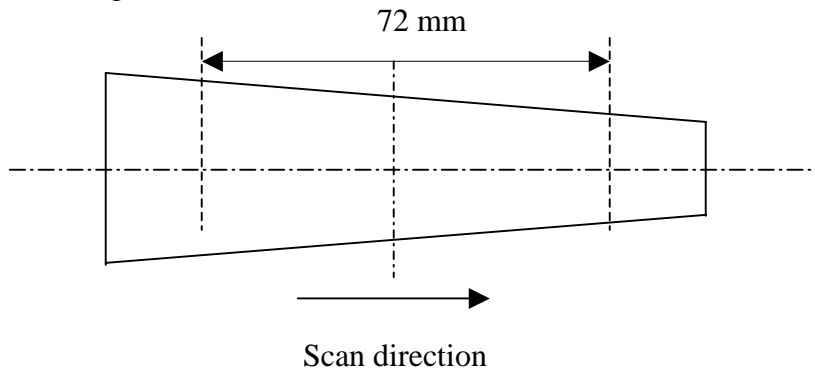

Figure 2. Scan direction.
- The mirror was set face-up and scanned over a length of 96 mm along the central line (see Figure 2).